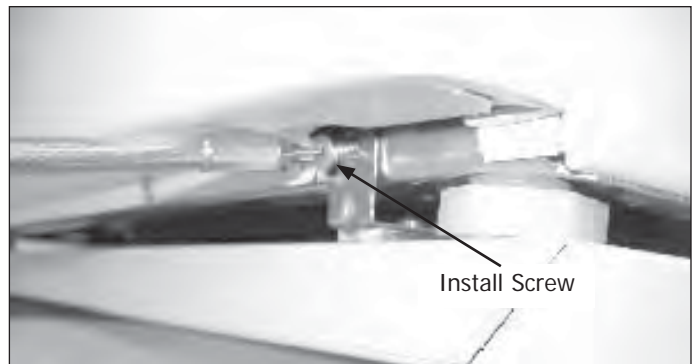

Figure 2-12 .
7. With pedestal drawer open for better access, install the two #10 screws through the front brackets in the pedestal into the washer base as shown in Figure 2-12.